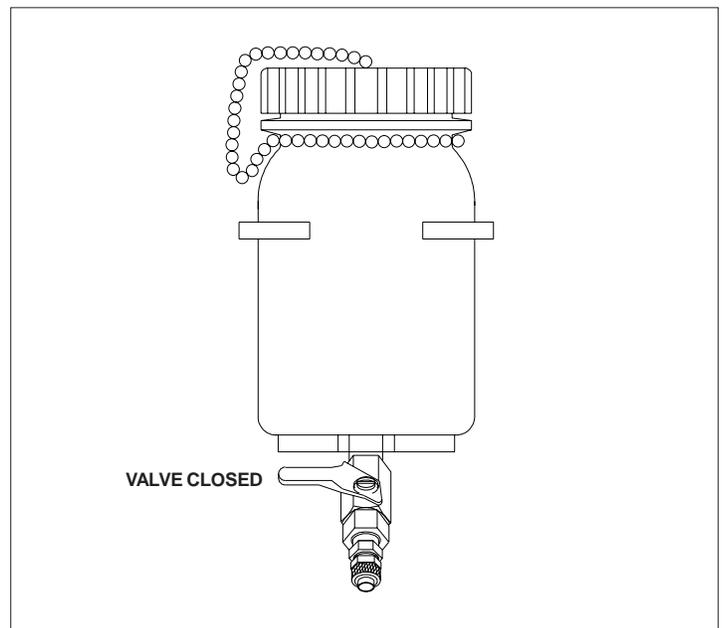

FIGURE 9
- 1 - With the valve on the Ink Reservoir in the closed position (See Figure 9), fill the Ink Reservoir approximately 1/2" above the ink level sensor.